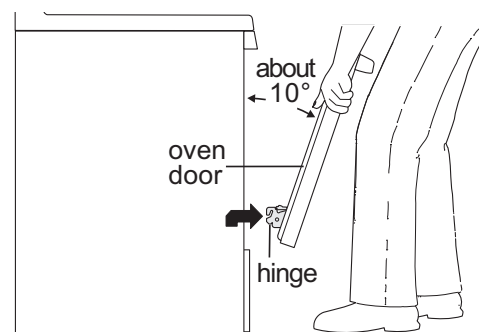

Figure 36: Hinge slot - door removed from appliance
4. Keep pulling the bottom of the door toward you while rotating the top of the door toward the appliance to completely disengage the hinge levers (Figure 36).
1. Firmly grasp both sides of oven door along the door sides. Do not use the oven door handle (Figure 36).